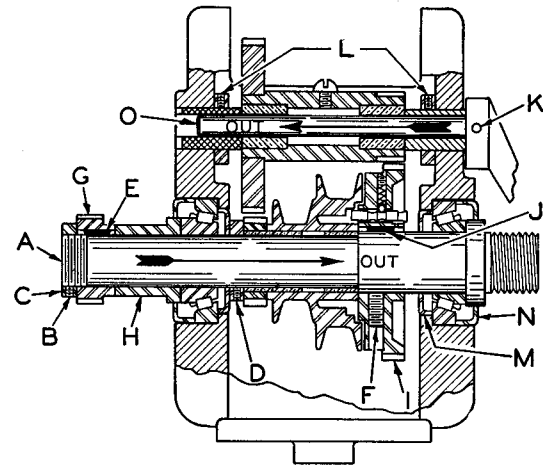

Fig. 5 Cross Section of Miller Head.
Run the miller between thirty minutes and an hour to warm up the spindle (a temperature rise of 50 degrees Fahr. increases the length of the spindle about .002 inch between bearings). Then loosen the set screw (B) on the thrust nut (C), at the extreme left end of the spindle (A), see Figure 5, and turn it up to a point where no play can be detected in the spindle. Advance this thrust nut $\frac{1}{2}$ turn (equal to one tooth of the spindle gear) past that point in order to provide the correct preload. Tighten the set screw. It is necessary to remove change gear guard on rear of miller to get at the adjusting collar. This is easily accomplished after loosening the hex screws.